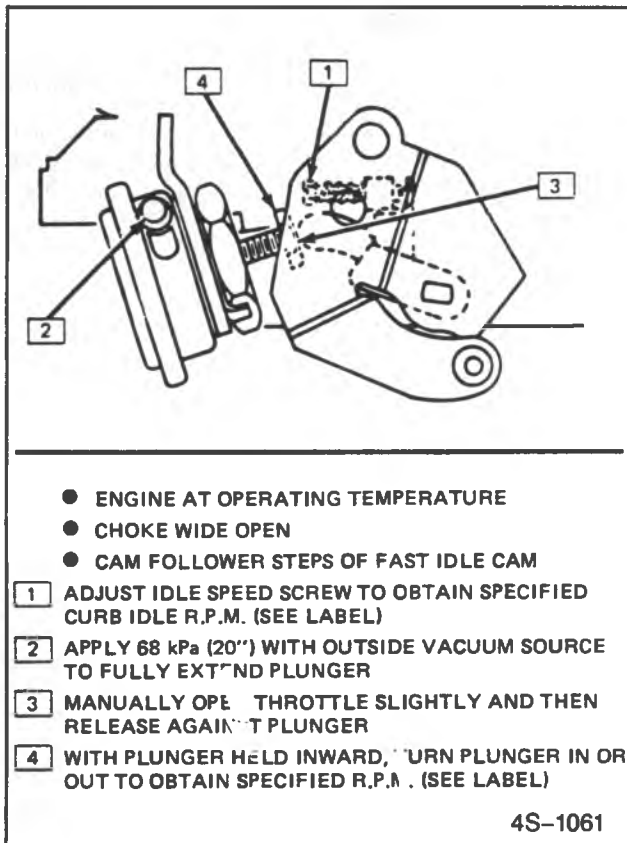

Figure 39 — Throttle Lever Actuator Adjustment
- g. If the engine rpm noted in Step 3 is not within the specified TRC speed range, the TRC actuator must be adjusted. Refer to figure 39 and Vehicle Emission Control Information label for adjustment of the throttle lever actuator.